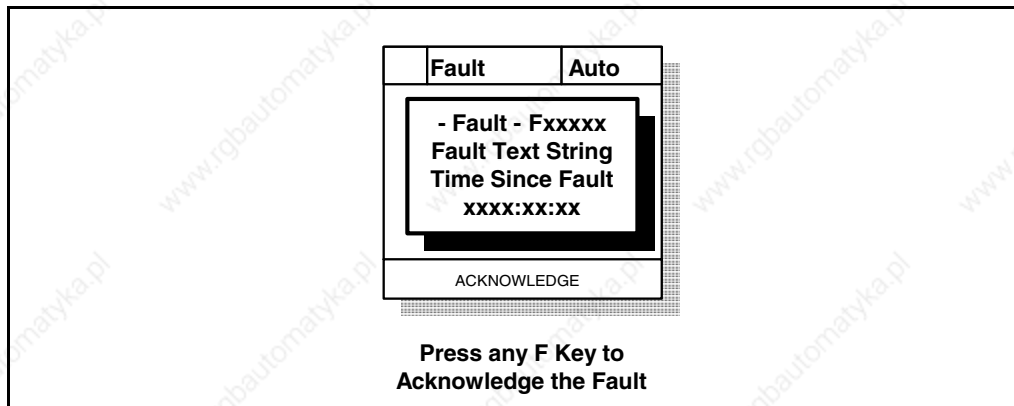

Figure 10.5 – Sample Fault Screen on the LCD OIM
- Drive status parameters Drive Status 1 (209) and Drive Status 2 (210).
- Pop-up screen on the LCD OIM. See figure 10.5. The screen displays: